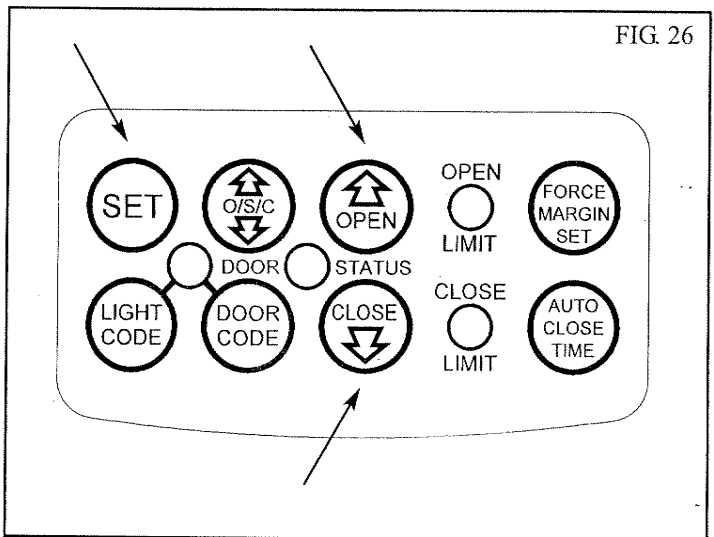

FIG. 26
1. Make sure the door is in the closed position. Press and hold the Open button for six (6) seconds (Fig. 26), you should hear three beeps and the Open and Close LEDs will flash rapidly.